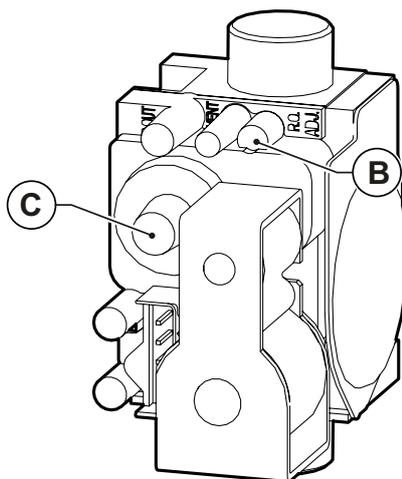

Fig. 36 Adjusting CO2 value
- Set flue gas CO2 content by turning the ratio adjuster **B** (see Fig. 36 Adjusting CO2 value) and ensure that reading falls within the limits of Tab. 1 Adjustment specifications KR 45 and of Tab. 2 Adjustment specifications KR 60.
- Set flue gas CO2 content by turning the offset control **C** (see Fig. 36 Adjusting CO2 value) and ensure that reading falls within the limits of Tab. 1 Adjustment specifications KR 45 and of Tab. 2 Adjustment specifications KR 60.